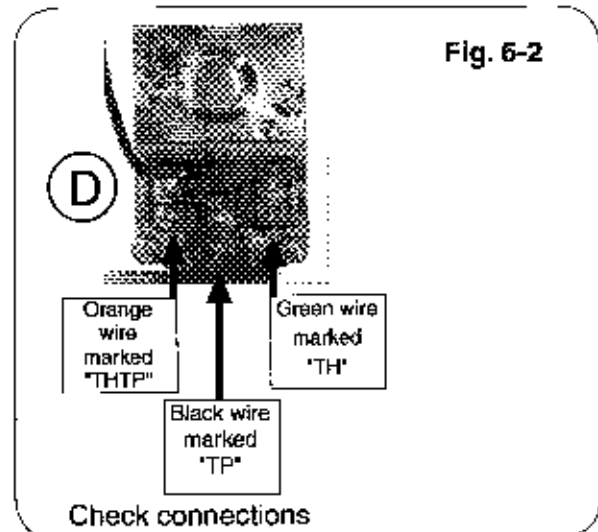

Fig. 6-2
4. Check the connections of the wires to the EPK-1(M)(P) valve (see Fig. 6-2):